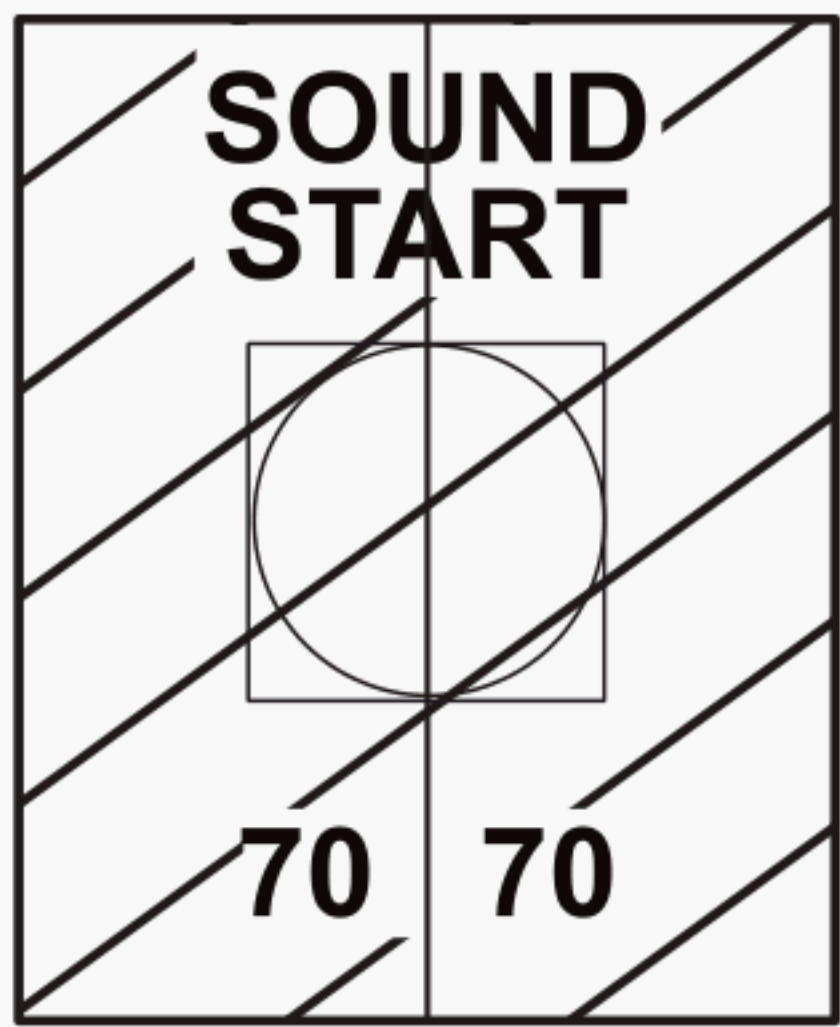

Figure 4 — 70 mm sound-start identification frame
- Frame 51 — The 70 mm sound indication; the numeral “70” printed lengthwise in clear letters on a black background on both sides of a clear horizontal line with a clear circle of 9,5 mm (3/8 in) diameter within a clear square 9,5 mm × 9,5 mm (3/8 in) in the centre of the frame (as shown in Figure 4). This frame is repeated every 16 frames to frame 131. Frame 51 shall also contain the words “SOUND START” printed lengthwise in clear letters 3,2 mm (1/8 in) high on a black background (see Figure 4).